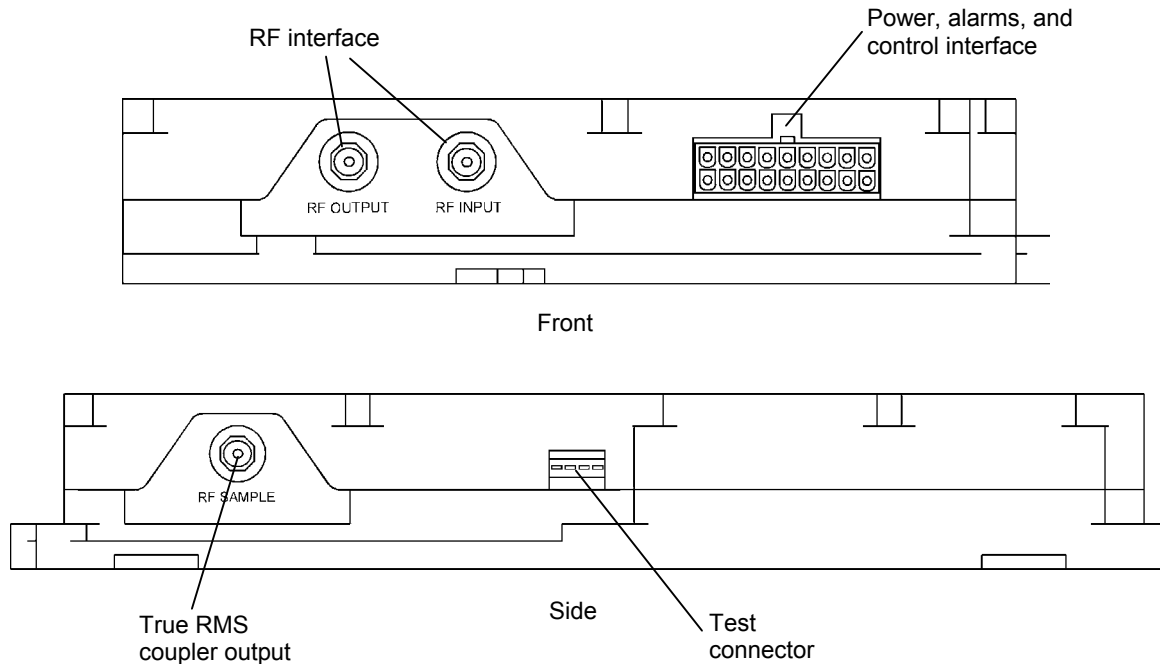
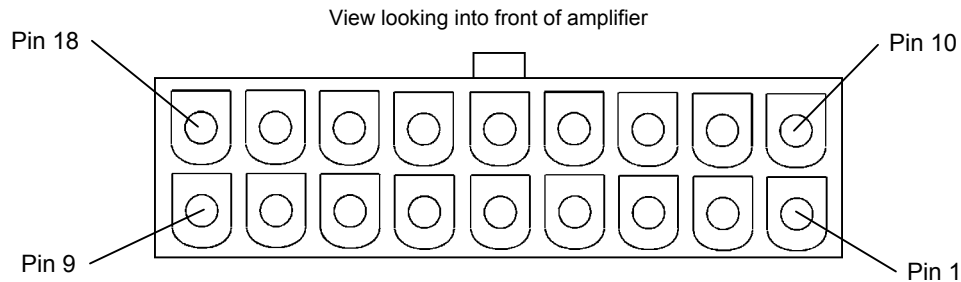

Figure 2-1 NTGS86AB Amplifier Front and Side Connectors
Figure 2-2 Molex 18-Pin Power, Alarms, and Controls Connector
4. Connect power, alarm, and control cable to matching 18-pin Molex connector located on the front of the amplifier as shown in figure 2-1. Refer to figure 2-2 and table 2-1 for the 18-pin Molex connector pin orientation and a list of related signal definitions.
The power, alarms, and controls connections for the amplifier are made through the 18-pin Molex connector shown in figure 2-2. The signals for each connector pin are listed and described in table 2-1.